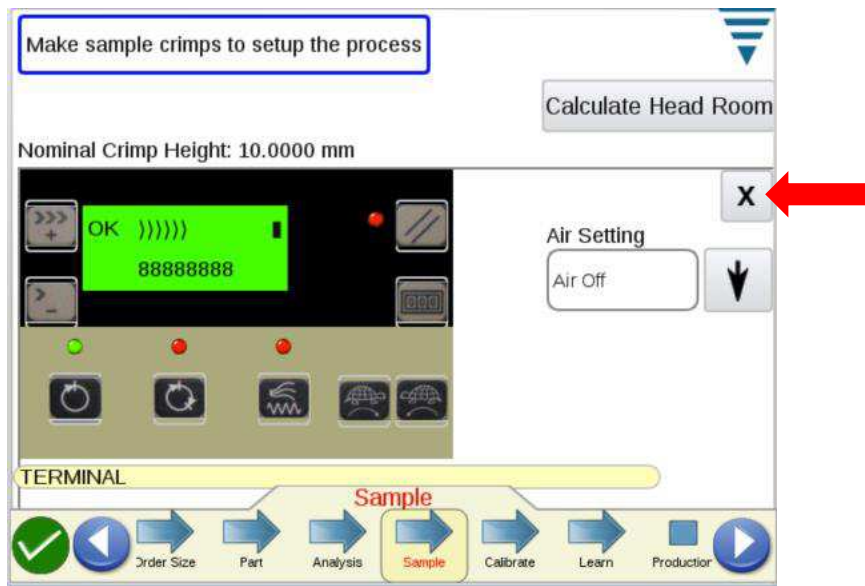

Figure 12
b. Remove the virtual keypad by pressing the “X” button (see Figure 12).